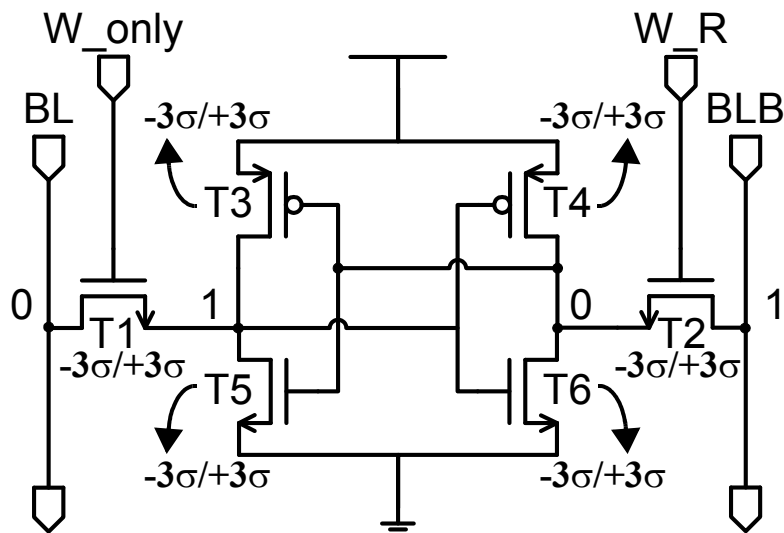

Figure 5. SRAM Circuit for Problem 4.1.
4.1 (4 Points) How would you modify transistors T1 – T6 to test for **write robustness**? **Assume only V_{th} variation matters**. For each transistor in Figure 5 below, circle the correct value to skew V_{th} by, either -3σ or $+3\sigma$ to test for worst case robustness.